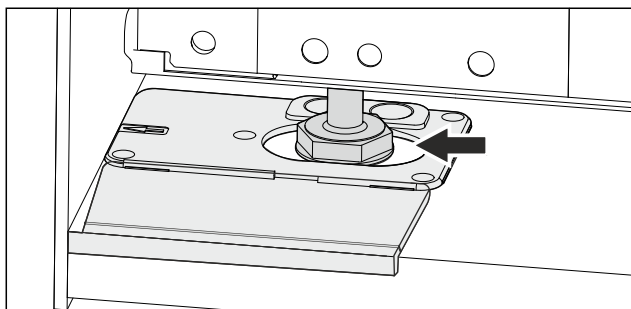

Fig. 49
- Align the appliance with the adjustable feet. Fig. 49 ()